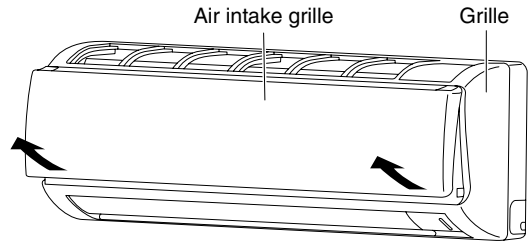

Fig. 3-85
- (1) Grasp both ends of the air intake grille, and remove it by opening towards the front and pulling towards you. (Fig. 3-85)